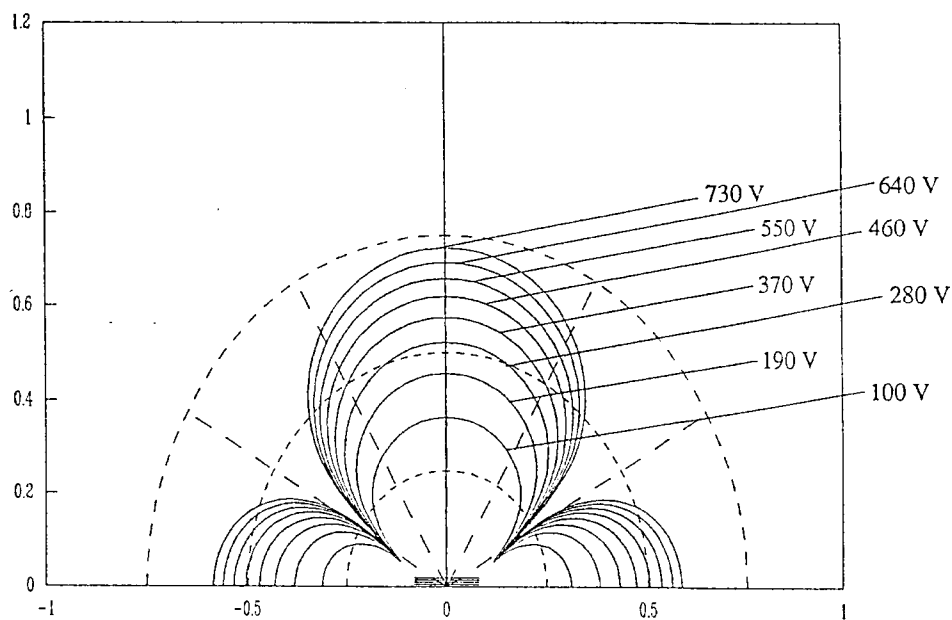

Figure 6A: Charge-up Diagram for the G02C Antenna (0° orientation)
2. Now go to figure 6A. 713 volts falls just inside the outer line which represents 730 volts.
2. Now go to figure 6A. 107 volts falls just above the first (inner) line which represents 100 volts.